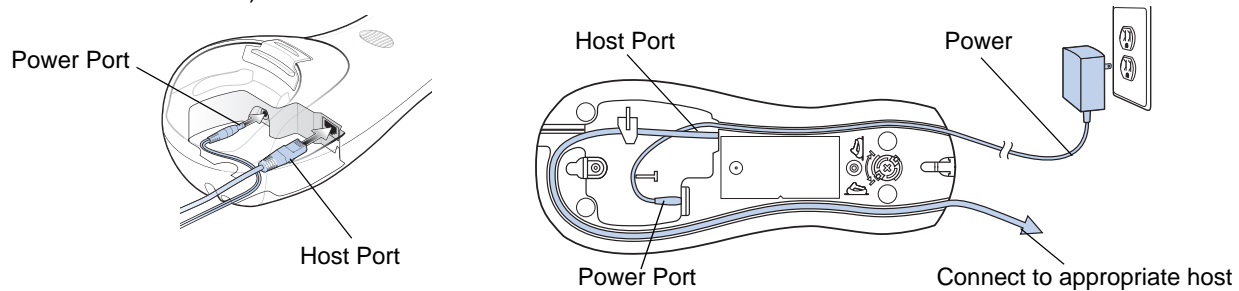

Figure 1-7 Connecting the Cables to the CR0078-S/CR0008-S Cradle
1. If a power supply is connected to the cradle, disconnect it. See Figure 1-7.